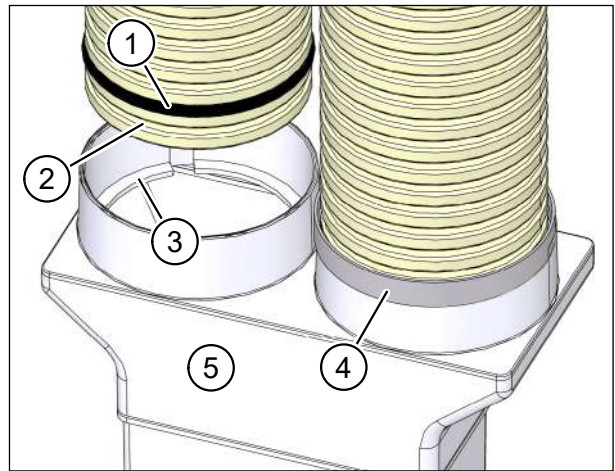

Fig. 30: Fixing a flexible pipe connection with sealing tape
- ▶ Insert the sealing rings (item 1 in Fig. 30) into the second groove on the flexible pipe. These are available as accessories M-WRG-FR-DR75 (part no. 5056-41/75).
- ▶ Insert the flexible pipes into the openings in the flexible pipe adapter (item 5 in Fig. 30). Make sure that the first groove on the flexible pipe (item 2 in Fig. 30) engages with the locking ring (item 3 in Fig. 30) on the flexible pipe adapter.
- ▶ Recommendation: Seal the join with a layer of sealing tape 30 mm wide (item 4 in Fig. 30).